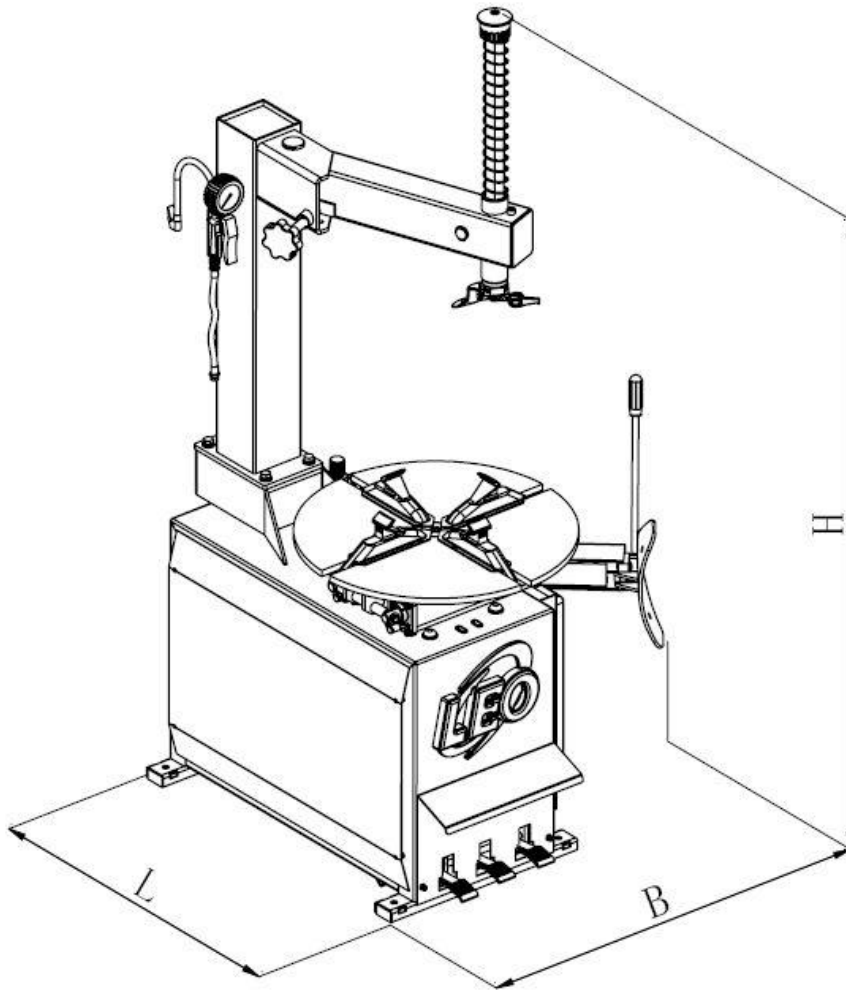

FIG1
- b) Spread the lubrication liquid or soap liquid around the lip. Tilt the tire against the rim and keep the front end upwards. Press down the hexangular shaft to move the demount arm to contact with the rim and lock. The left lip above the tail of the demount tool and the right lip will be positioned under the front end of the demount tool (FIG 1), Clockwise rotate the